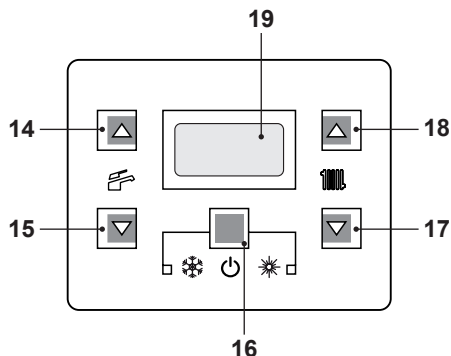

Fig. 2.7
- Press the key 16 for 2 seconds until the  symbol appears on the display Fig. 2.7.
The output temperature of C.H. water can be adjusted by pressing keys 17 (reduce) and 18 (increase) (Fig. 2.7) from a minimum of about 25°C to a maximum of about 85°C. Press one of the two keys once to display the "set" value. Press again to access the modification.
However, if the ambient temperature is not comfortable, the flow temperature of the heating system can be adjusted by  $\pm 15^\circ\text{C}$  by pressing on keys 17 (reduce) and 18 (increase) (Fig. 2.7).